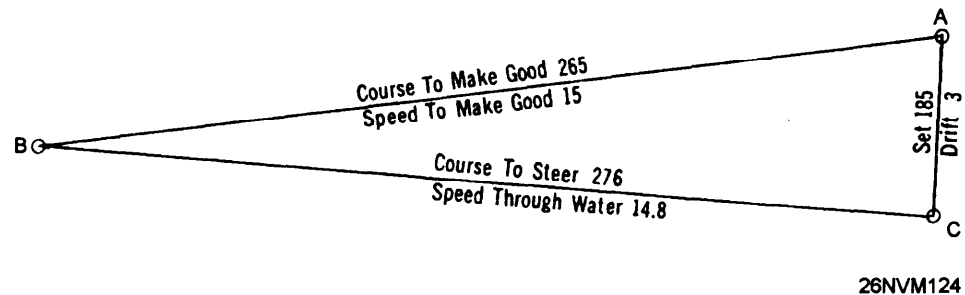

Figure 11-9. Allowing for estimated current.
**Example:** Let's assume that you need to make course 265° and speed 15 knots good to arrive at the desired location on time. Set and drift are determined to be 185° at 3 knots. Use the following table and figure 11-9 for this example.